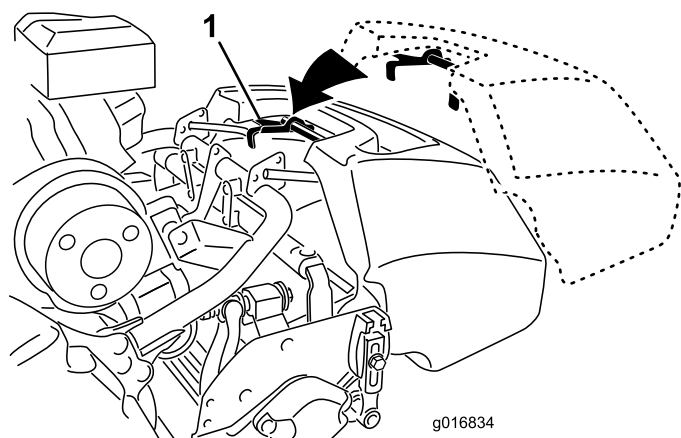

Figure 9
1. Grasp the basket by the handle (Figure 9).
2. Guide the basket lip between the cutting unit side plates and over the front roller (Figure 9).
3. Install the basket hooks over the frame loop (Figure 9).